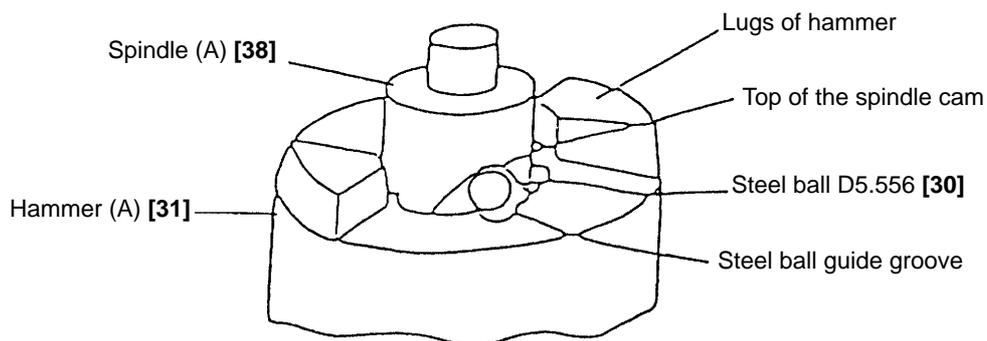
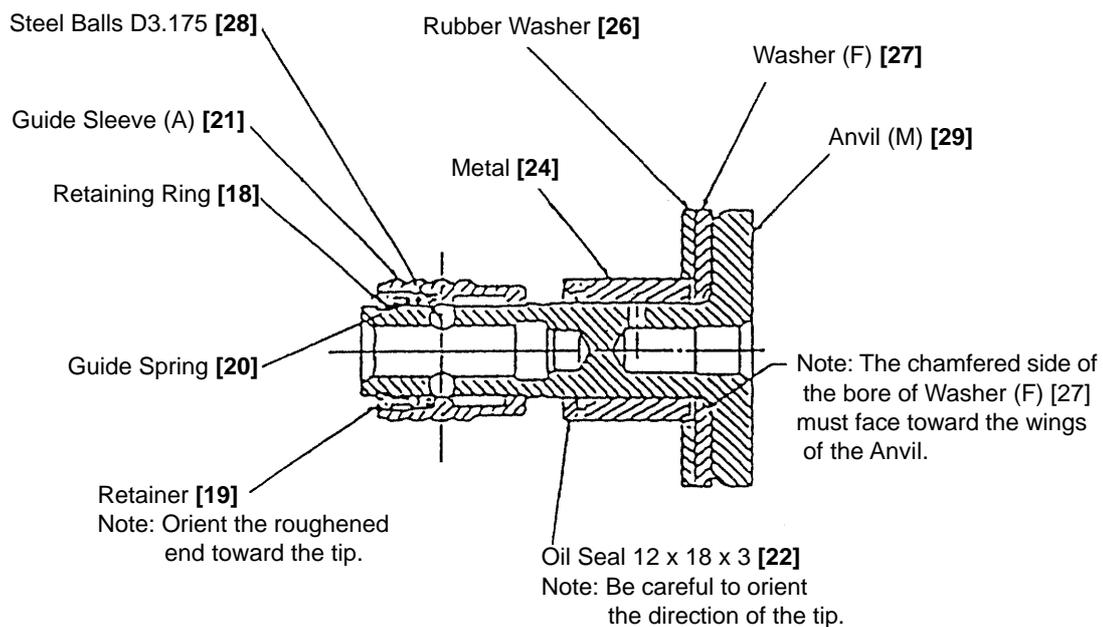

Fig. 15
Fig. 16
(2) Hammer and spindle section
- (a) Press-fit the Gear [37] from the top of the Spindle, insert Washer (A) [36] and fit it into the groove of Spindle (A) [38] with the chamfered face of Stopper (A) [35] facing up. Then insert the Spring [34], and with 21 Steel Balls [32] [3.97 mm dia. (5/32")] and Washer (G) [33] placed in the Hammer, keep on the Hammer with Spindle (A) [38] contacted.
- (b) Bring the apex of the cam groove provided in Spindle (A) [38] in Fig. 15 on page 14 into alignment with the Steel Ball receiving groove in Hammer (A) [31]. Press down by hand one of the lugs at the Hammer end to compress Spring [34], and compress Stopper (A) [35] at end face of the Hammer (A) [31] until it rests on Spindle (A) [38] to support it.
(3) Assembly of mechanical parts into Housing (A)
- (a) Spline the Anvil (M) [29] with its assembly parts shown in Fig. 16 to the Spindle and install in Housing (A). Fit Washer (A) [40] behind the Ball Bearing [39].
- (b) Insert Ball Bearing (B) [48] into the Gear (second pinion) [37] and install in Housing (A) so that the gears mesh.
(5) Housing section